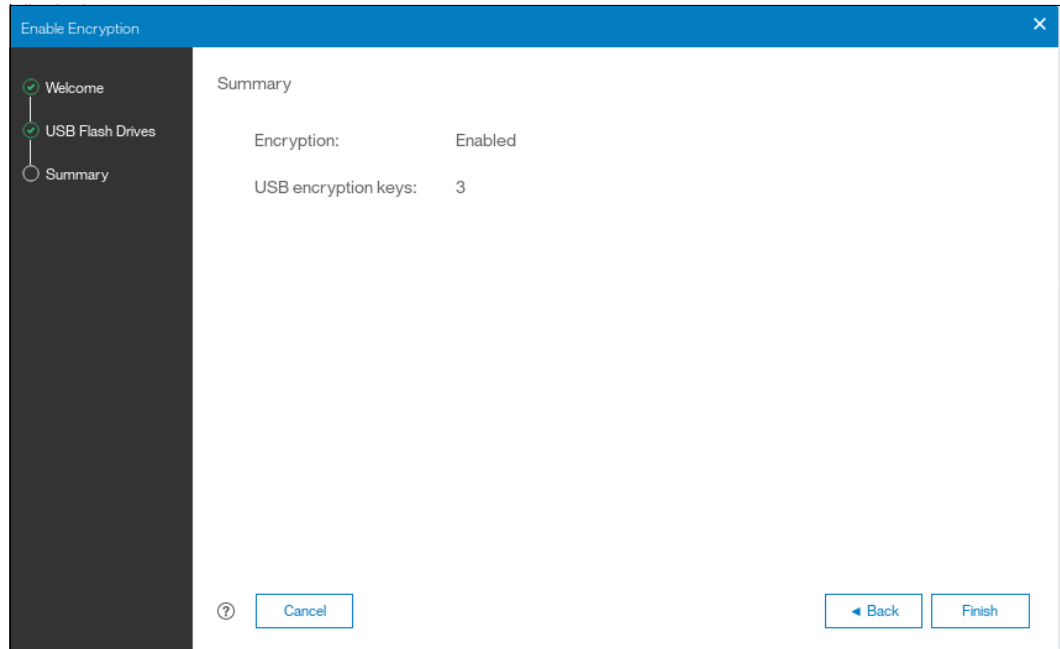

Figure 7-31 Commit the encryption enablement
6. The number of keys that were created is displayed in the Summary tab, as shown in Figure 7-31 on page 262. Click **Finish** to finalize the encryption enablement.